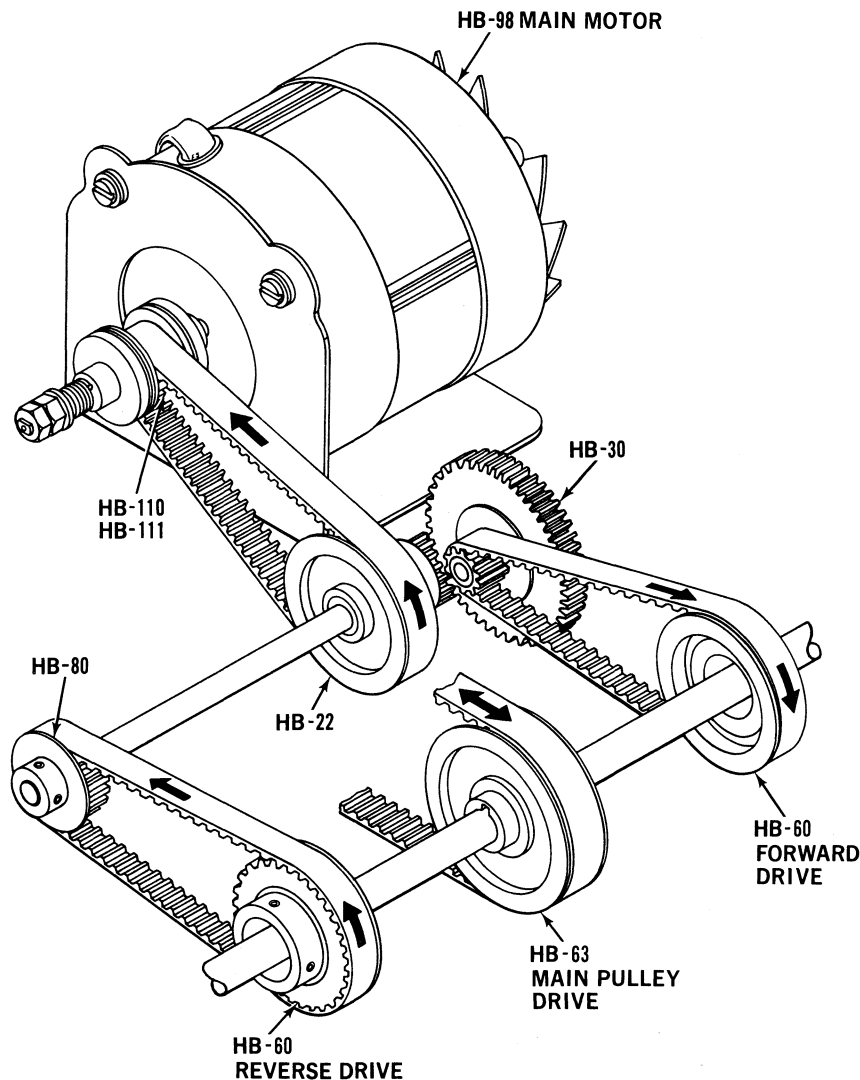

Figure 5-1. MODEL 101 SERIES DRIVE TRAIN
A. Motor Drive Chain (Figure 5-1)